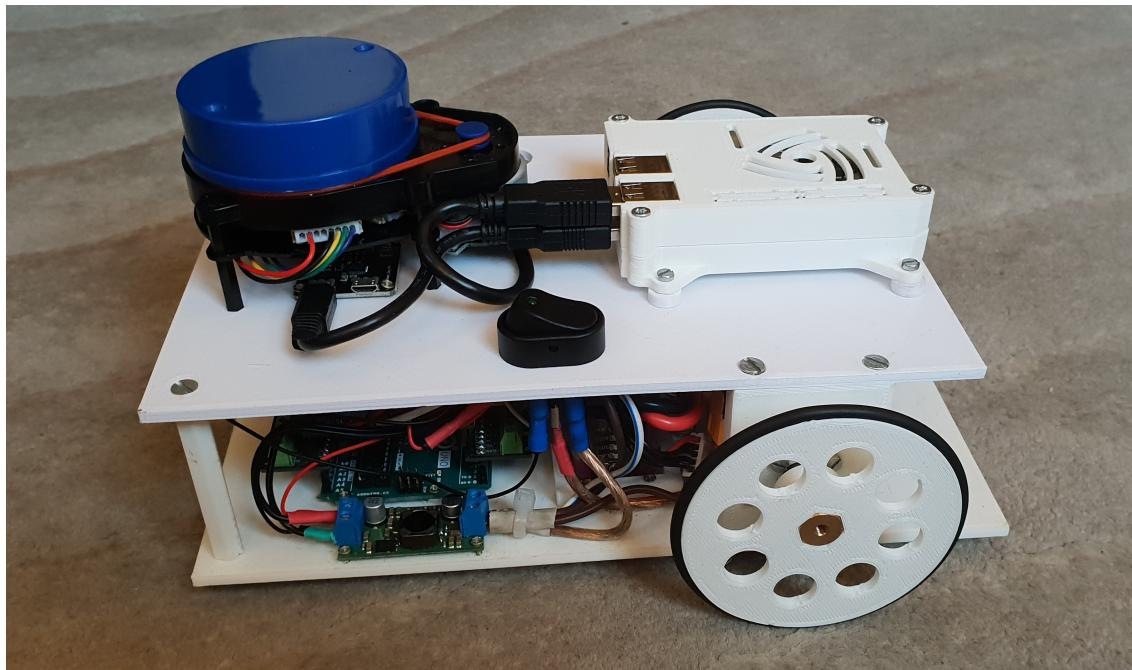

Fig 1 – Real robot
- b) Implement a detection and validation module for the beacons (see Control procedure, cycle “for i:= firstRay to LastRay”). The laser data vector starts with a distance measure correspondent do - 180°. The beam angle step is 1° and the laser frame is centred with the same orientation than the robot frame (placed in the middle of the wheels with the X axis pointing forward and the Z axis pointing up) at a distance of 14 cm (see figures 1 and 2).